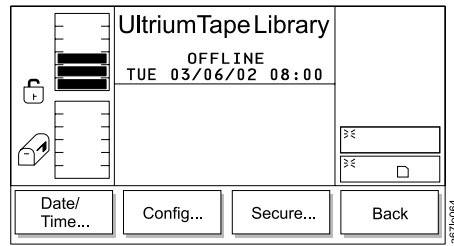

Figure 227. Utils Submenu
3. Press the button below the **Utils** softkey. The Utils Dialog displays (see Figure 227).
6. Verify that the new setting is correct on the display, then press the button below the **OK** softkey to accept the new inventory setting. The Utils Submenu redisplay (see Figure 227).